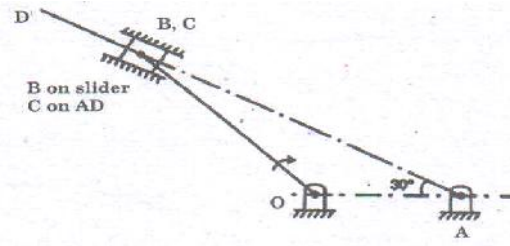

Fig.4
6. A Single cylinder rotary engine is shown in figure 4 below. OA is fixed link, 200mm long. OB is the connecting rod and is 520 mm long. The line of stroke is stroke is along AD and at the instant is inclined at 30° to the horizontal. The body of the engine consists of cylinders rotates at a uniform speed of 400 rpm about fixed centre A. Determine the acceleration of slider B and angular acceleration of the connecting rod. [Apr 2015]
10. An epicyclic gear train shown in figure 4. The number of teeth on A & B are 80 and 200 respectively. Determine the speed of the arm 'A': (i) If A rotates at 100rpm clockwise and B at 50rpm anticlockwise (ii) If A rotates at 100rpm clockwise and B is stationary.